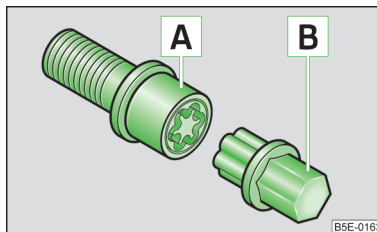

Fig. 89
The anti-theft wheel bolts protect wheels from being stolen. This can only be **B** with the attachment » fig. 89 **loosened / tightened**.
- › Insert the attachment **B** » fig. 89 as far as it will go on the anti-theft wheel bolt **A**.
- › Insert the wheel wrench onto the wheel bolt to the stop. Use the associated attachment for the anti-theft wheel bolts » fig. 89 on page 89.